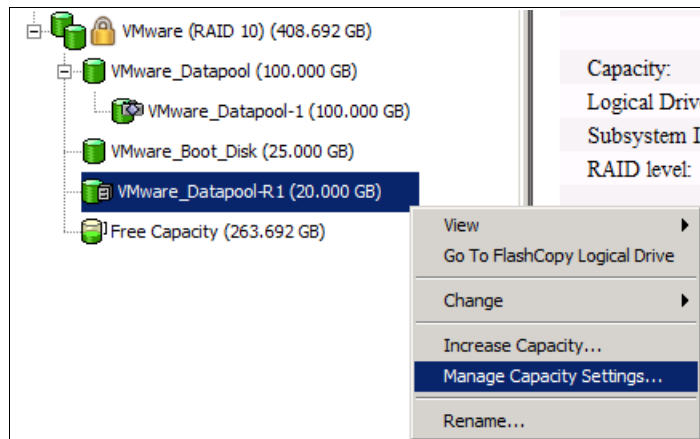

Figure 2-29 Manage Capacity Settings
4. Right Click on the Repository and select Manage Capacity Settings as in Figure 2-29